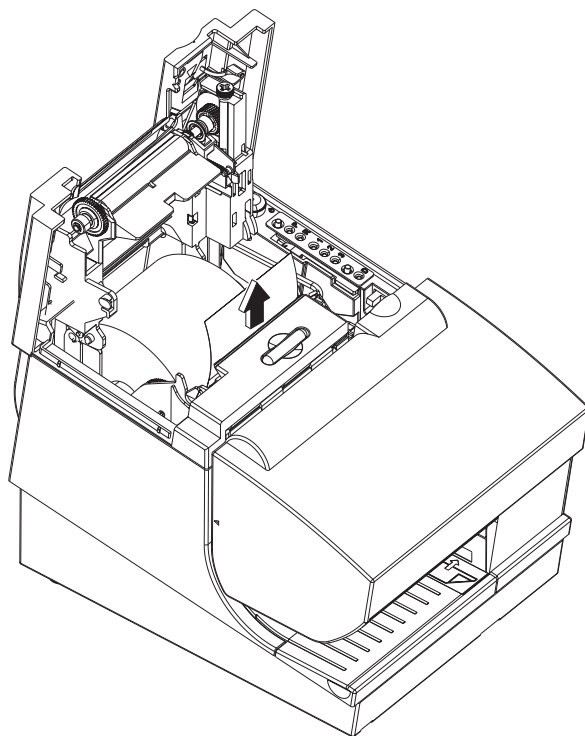

Figure 9. Paper roll placement
3. Place the paper roll into the paper roll bucket with the leading edge of the paper coming from the bottom of the roll, as shown in Figure 9.